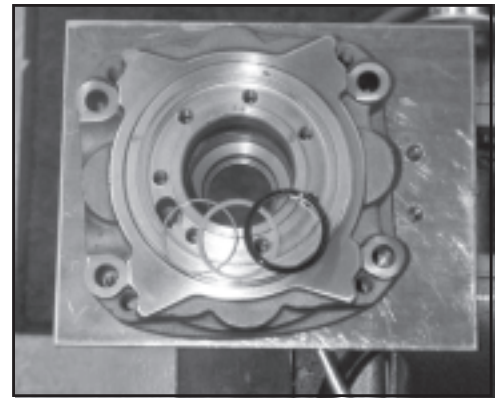
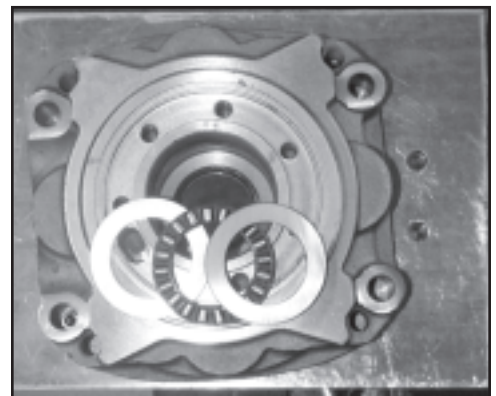

Figure A8
Figure A9
8. Install back-up ring, back-up washer, and shaft seal (seal lip facing inwards) FIGURE A8. See Cross Section View. Place thrust washers and thrust bearing in the bottom of case. SEE FIGURE A9